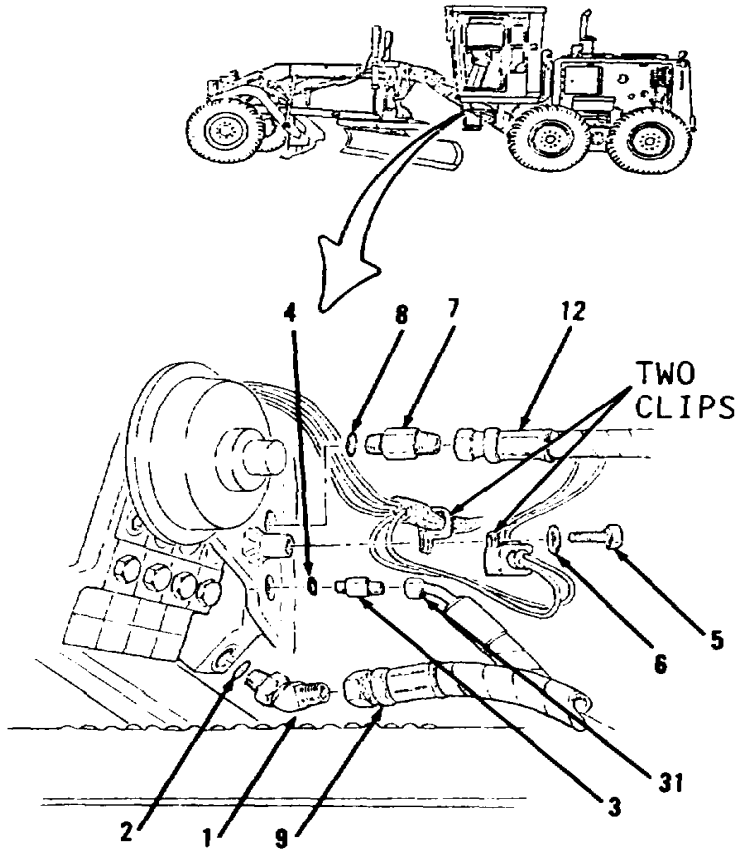
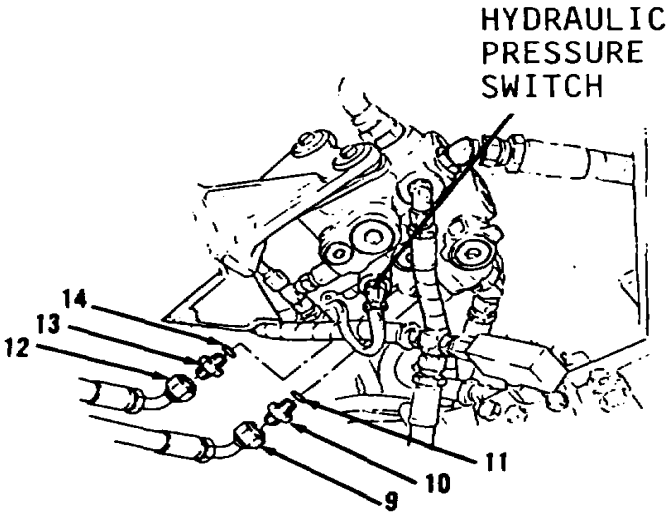

Figure 10-157. ---
Figure 10-158.
1. Disconnect hose assembly (9, Figure 10-157).
2. Loosen elbow locknut on elbow (1) and remove elbow (1).
3. Remove preformed packing (2). Discard preformed packing (2).
4. Disconnect hose assembly (31) from right side of vehicle.
5. Remove connector (3) and preformed packing (4). Discard preformed packing (4).
6. Remove bolt (5), washer (6) and two clips.
7. Disconnect hose assembly (12).
8. Remove connector (7) and preformed packing (8). Discard preformed packing (8).
9. Remove hydraulic pressure switch (Figure 10-158). Refer to TM 5-3805-261-20.
10. Remove hose assembly (9), connector (10) and preformed packing (11). Discard preformed packing (11).
11. Remove hose assembly (12), connector (13) and preformed packing (14). Discard preformed packing (14).